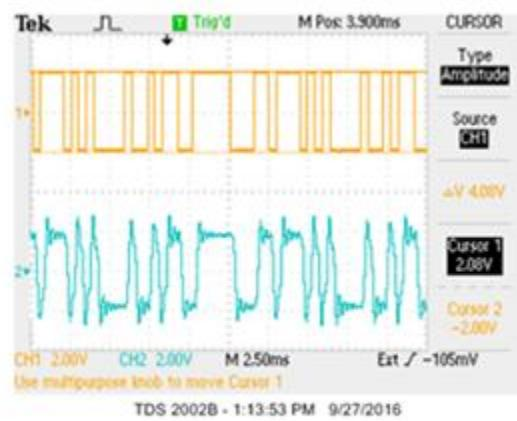

**Figure 20: Setup for generating eye-patterns**
1. Make the connections as in Figure 20.